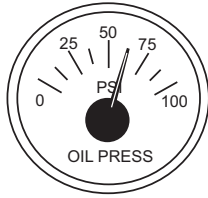

Figure 58. Oil Pressure Gauge
9. The **engine oil pressure gauge** (Figure 58) will indicate the oil pressure of the engine. Under normal operating conditions the oil pressure should be between 57–100 psi (393–689 kPa).